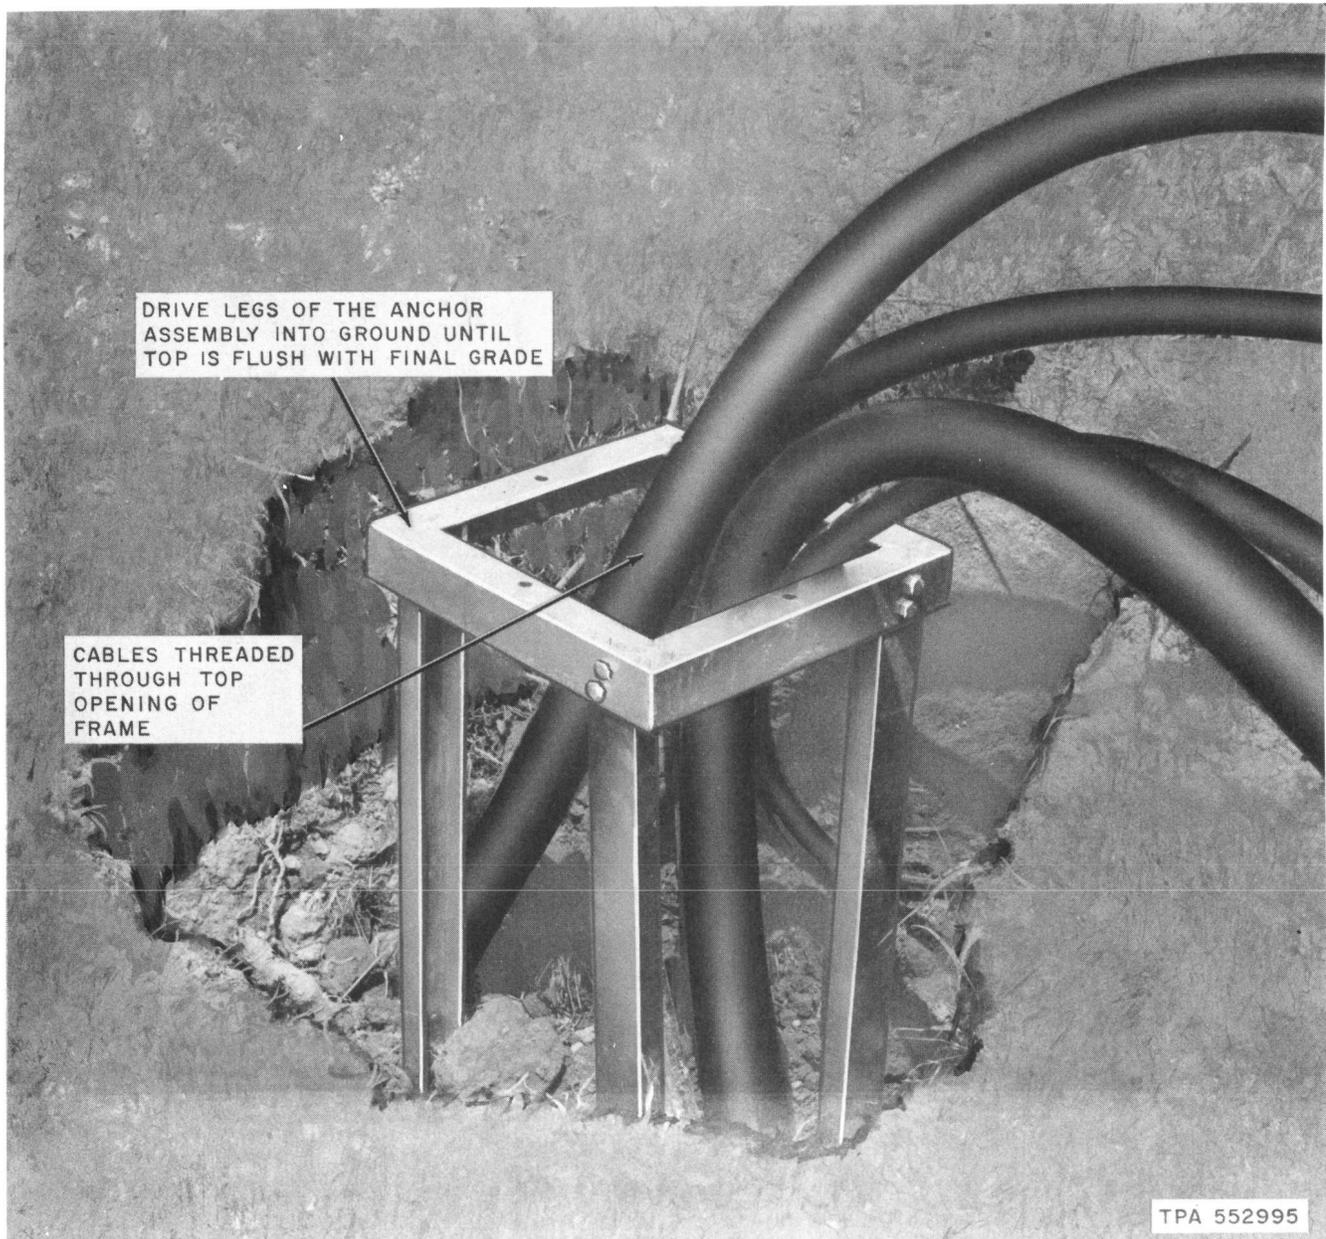

Fig. 3—Positioned Anchor Assembly
4.03 Assemble the anchor assembly, then thread the cables through the opening (Fig. 3). Then drive or excavate and plant the legs of the anchor assembly into ground until top is about 1 1/2 inches below final grade.